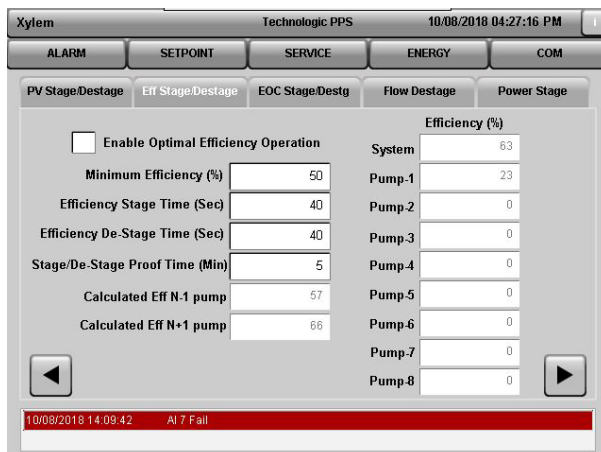

Figure 5.4.24–Efficiency Stage/Destage
**[Efficiency Stage/Destage]** controls staging and destaging of pumps based on System Efficiency and Calculated Efficiency. See **Figure 5.4.24**.